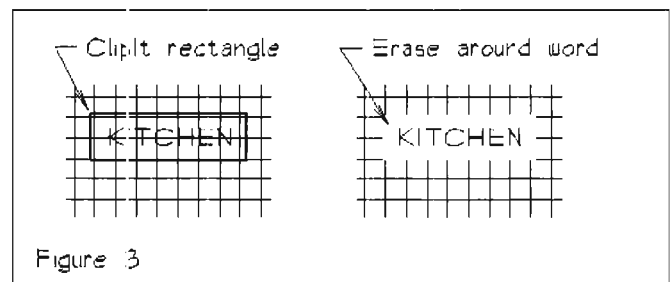

Figure 3
3. Pick two points to define a rectangle around the area to erase. For example, box around text that is laying on unassociated hatch lines, as shown in Figure 3.